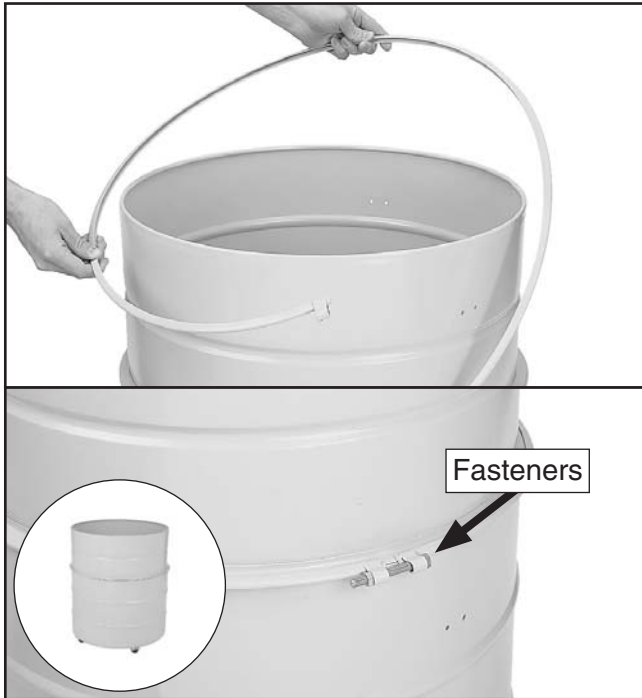

Figure 26. Installing metal clamp around collection drum.
- 15. Model G0441:** Connect the upper and lower collection drums together and secure them with the included metal clamp and provided fasteners, as shown in **Figure 26**.